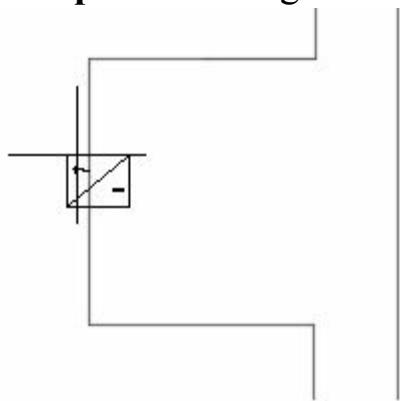
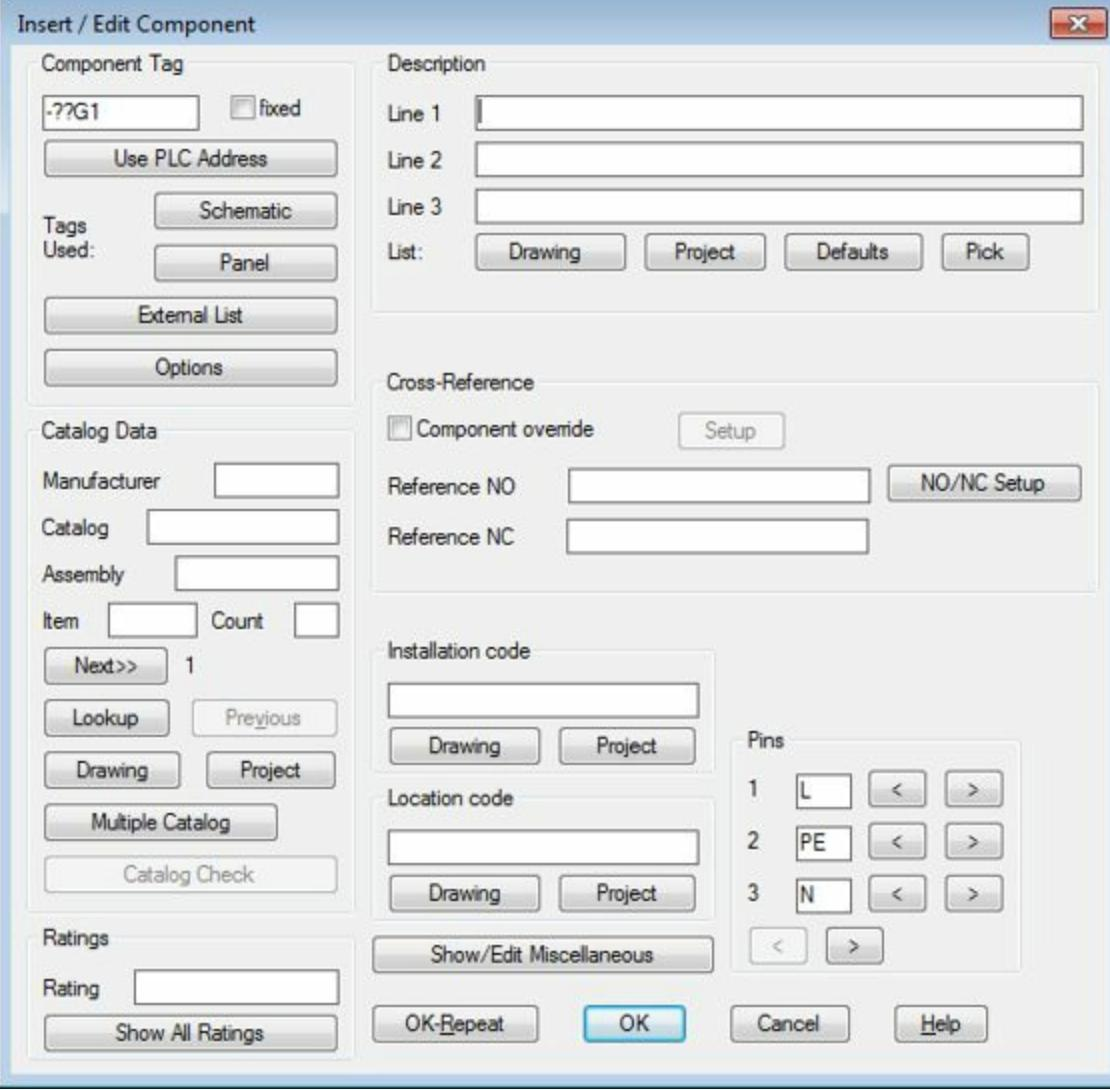

Figure-15. Placing power source
Figure-16. Insert or Edit Component dialog box
- Click in the middle of the wire to place the component; refer to Figure-15. The **Insert/Edit Component** dialog box will be displayed; refer to Figure-16.